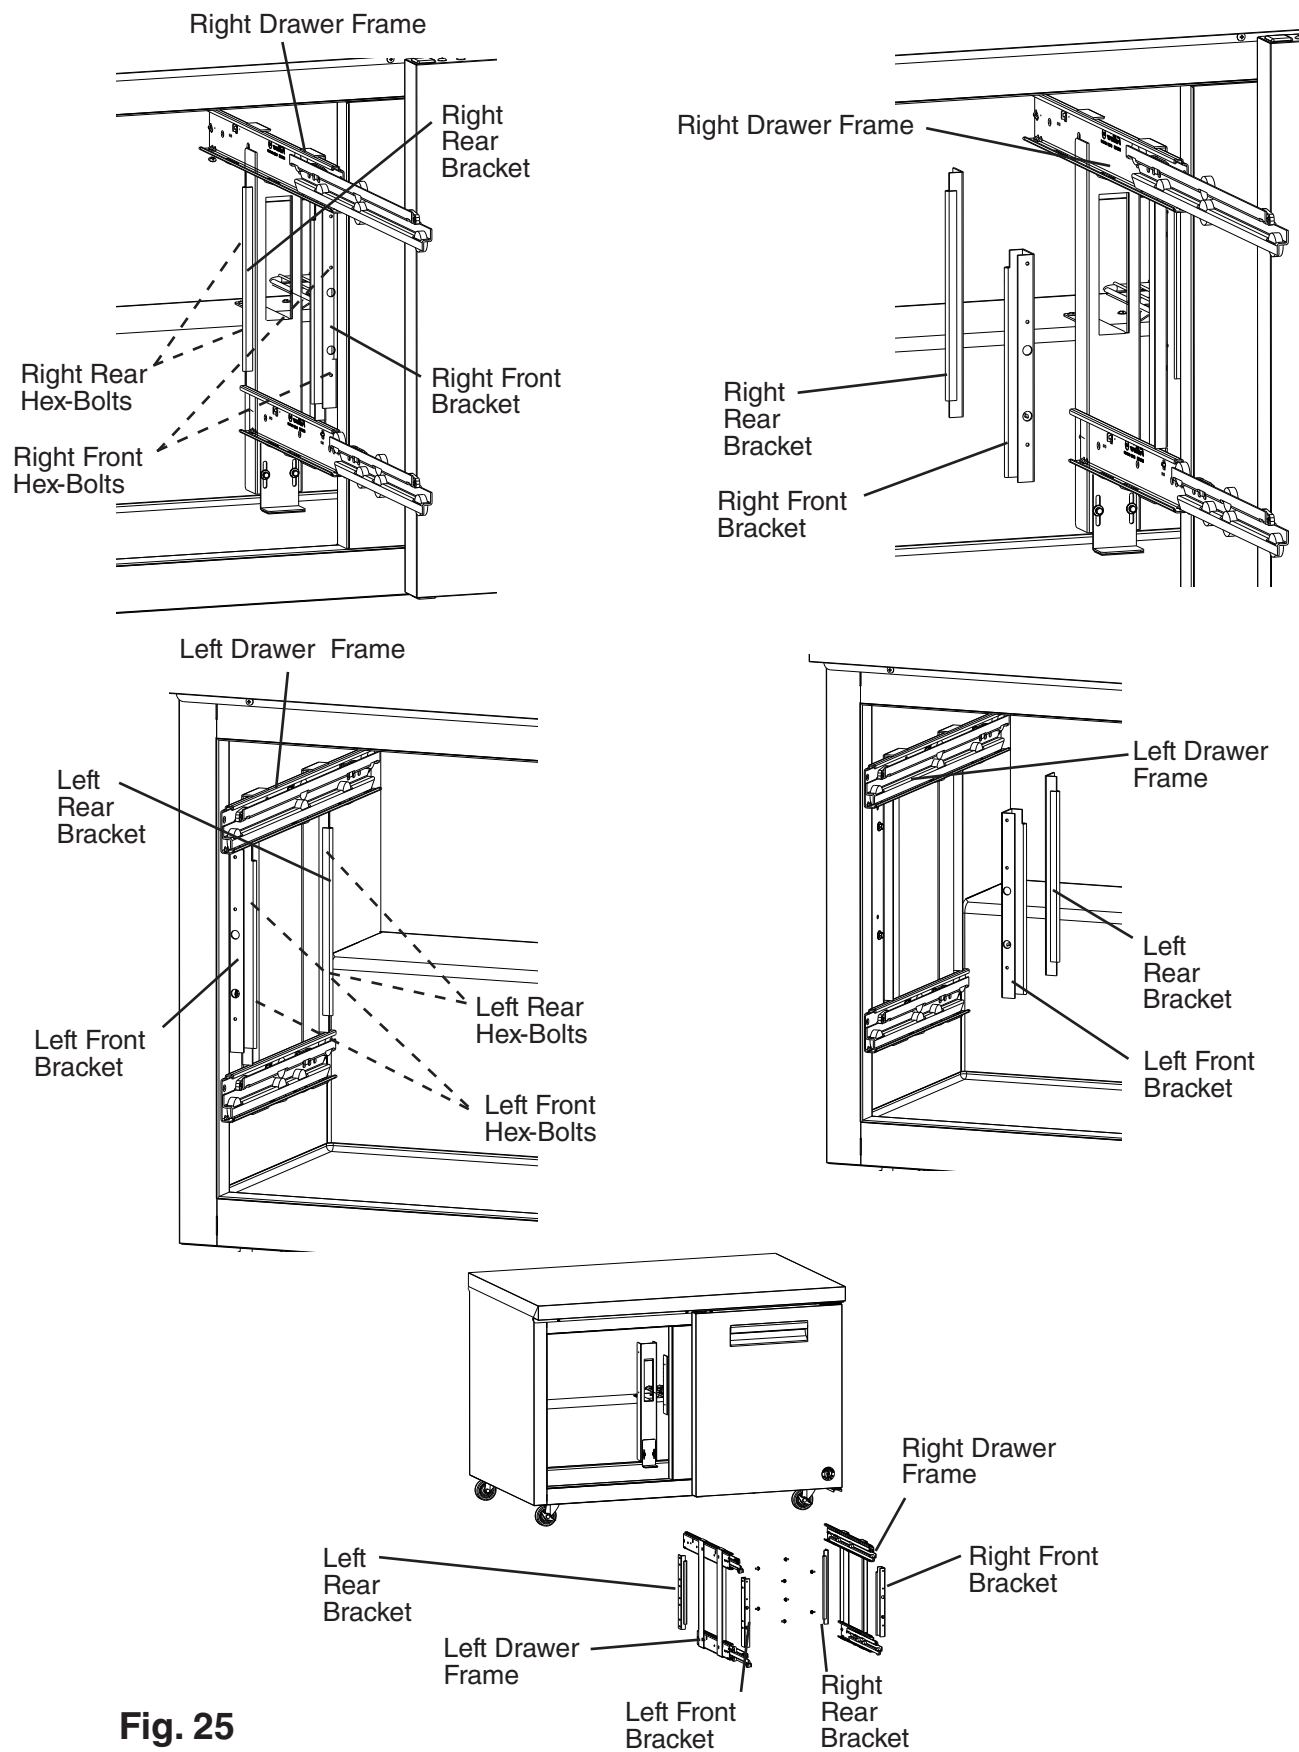

Fig. 25
- 4) Remove the hex-bolts from the 2 right (front and rear) and 2 left (front and rear) brackets (2 hex-bolts per bracket), then remove the right and left drawer frames. See Fig. 25.